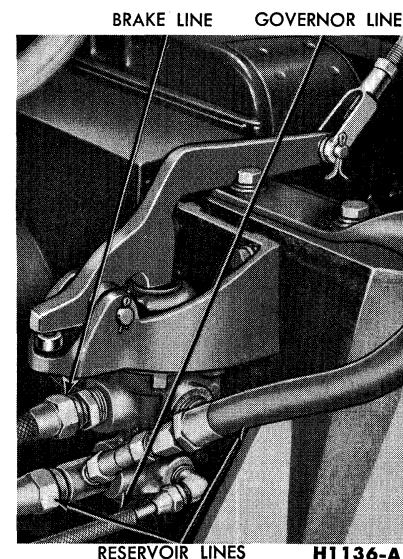

FIG. 19—H-Series Brake Valve Installation
2. Disconnect the compressor governor line and the reservoir pressure line(s) (Fig. 19).
5. Disconnect the control valve actuating arm from the valve mounting bracket by removing the cotter pin and clevis pin (Fig. 19).